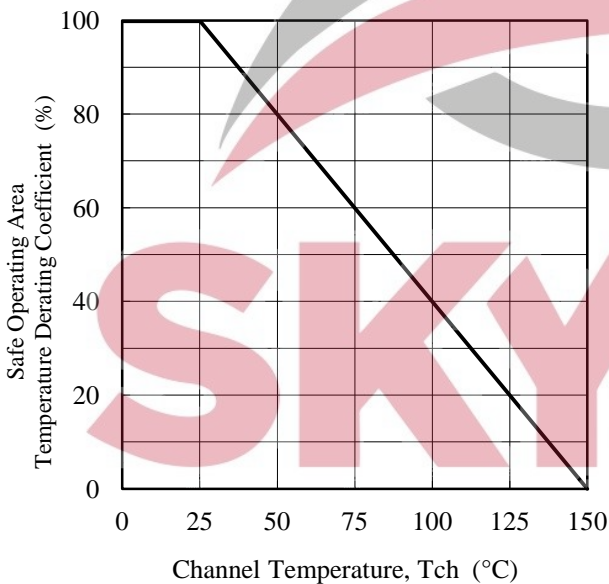

Figure 3-1. SOA Temperature Derating Coefficient Curve
⁽¹⁾ See Figure 3-1. SOA Temperature Derating Coefficient Curve
- When the IC is used, the safe operating area curve should be multiplied by the temperature derating coefficient derived from Figure 3-1.